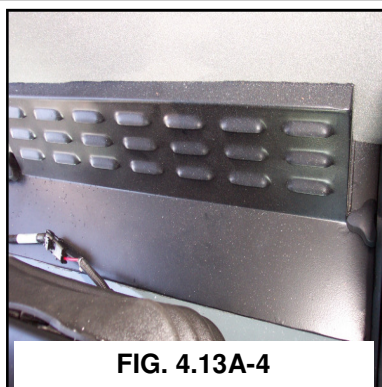

FIG. 4.13A-4
**CAB FILTERS**– Inside the cab are two filters (fig. 4.13A-4), a charcoal filter and a paper filter. Refer to the SERVICE section B on filters for maintenance information. Refer to the Hagie STS 10 Part Manual for replacement part information.